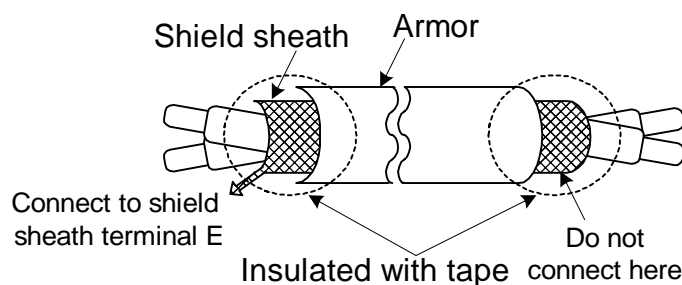

Fig. 3 Processing the ends of twisted-pair cables
- (1) Separate the control circuit wiring from main circuit wiring (R/L1, S/L2, T/L3, U/T1, V/T2, W/T3) and other high-power lines to avoid noise interruption.
- (2) Separate the wiring for control circuit terminals RA-RB-RC (R1A-R2B-R2C) (contact output) from wiring for terminals ① ⑧, A01, A02, GND, DO1, DO2 (R2A-R2C), DOG and 15V, VIN, AIN, AUX, GND, IP12, IG12, A (+), A (-).
- (3) Use the twisted-pair or shielded twisted-pair cables for control circuits to prevent operating faults. Process the cable ends as shown in Fig. 3. The max. wiring distance should not exceed 50 meter.